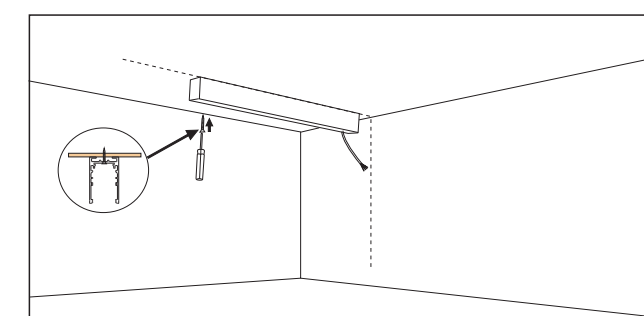

FIG 3
3. Install the track into the ceiling with self-tapping screws and the power cord enters through the hole of the track outlet. Ensure the screw is firmly installed with the track (Ref Fig 3).